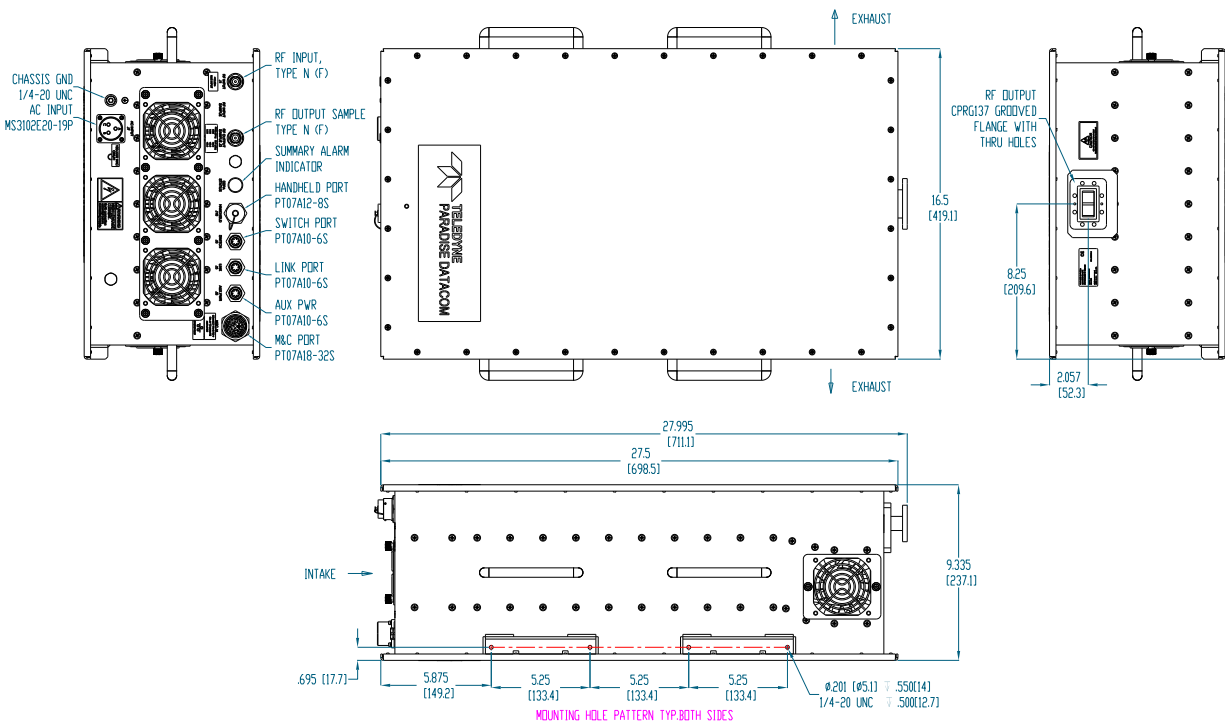

Figure 2-1: Outline Drawing, Typical High Power Outdoor SSPA (C-Band Shown)
Figure 2-1 shows a typical outline drawing of a High Power Outdoor SSPA. The unit enclosure has overall dimensions of 27.5 inches (698.5 mm) by 16.5 inches (419.1 mm) by 9.335 inches (237.1 mm).
The RF Output shown in **Figure 2-1** is a CPRG-137 waveguide flange with thru holes. Ku-Band amplifiers utilize a WR-75 waveguide flange with thru holes. X-Band SSPAs use CPRG-112 waveguide flanges with thru holes. S-Band amplifiers have Type N (F) connectors.